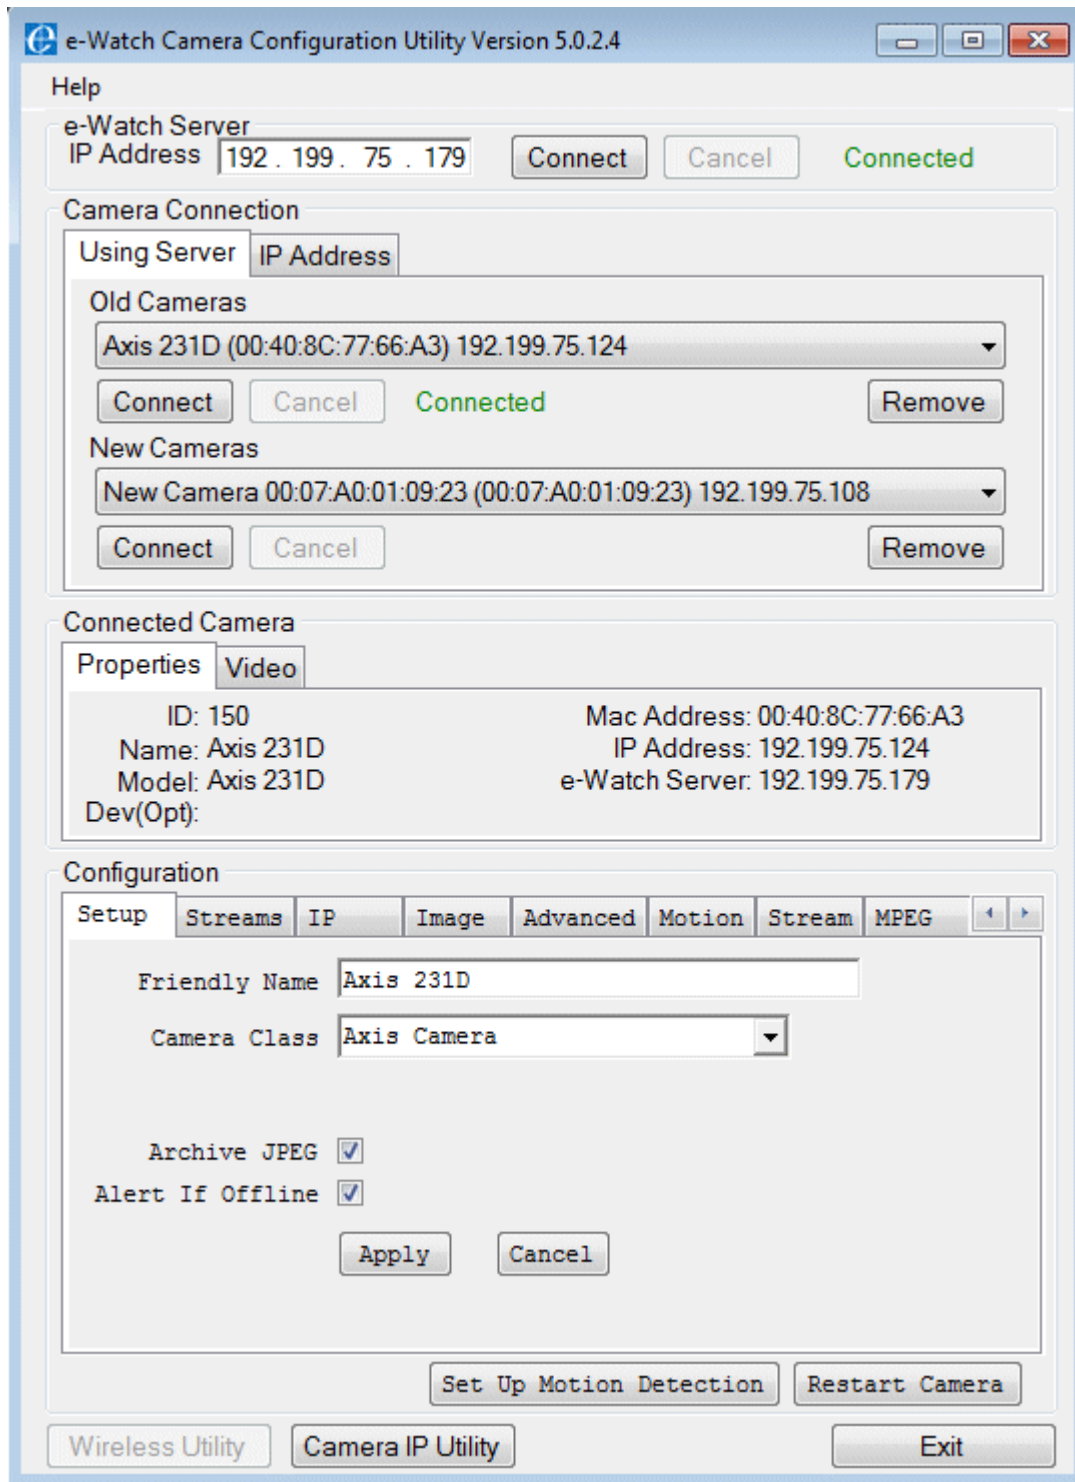

Figure 4-7. Motion Detection Using The Camera Configuration Utility
You can also set up motion detection using the e-Watch Camera Configuration Utility. See Figure 4-7.
- Figure 4-7. Motion Detection Using The Camera Configuration Utility 18